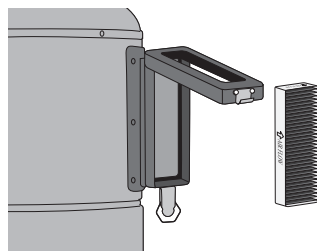

figure 22
2. Remove the used filter, and discard (**figure 22**).